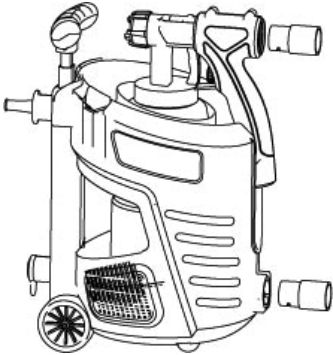

FIGURE 9.2 - SPRAY GUN 700W
- Align the delivery pipe (see Figure 9.2). With the delivery pipe in the correct position, the content of the reservoir may be completely sprayed;